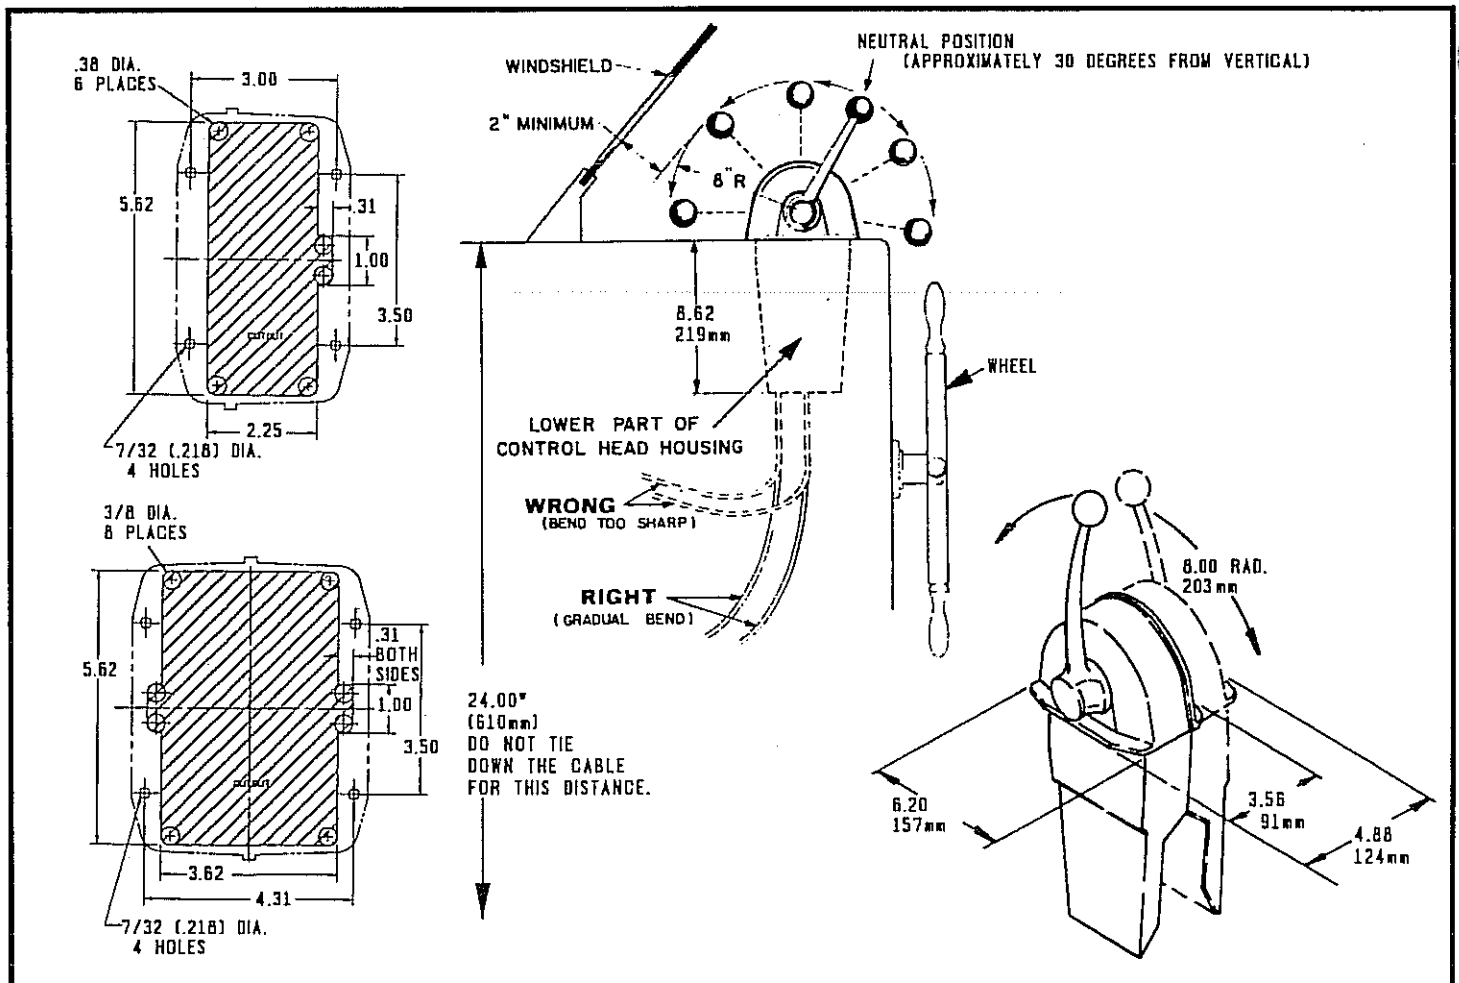

FIGURE 1 CONTROL MEASUREMENTS
See Figure 1 for Control dimensions.
- 1.2 Allow adequate clearance under the console for the Cables. Refer to Figure 1.